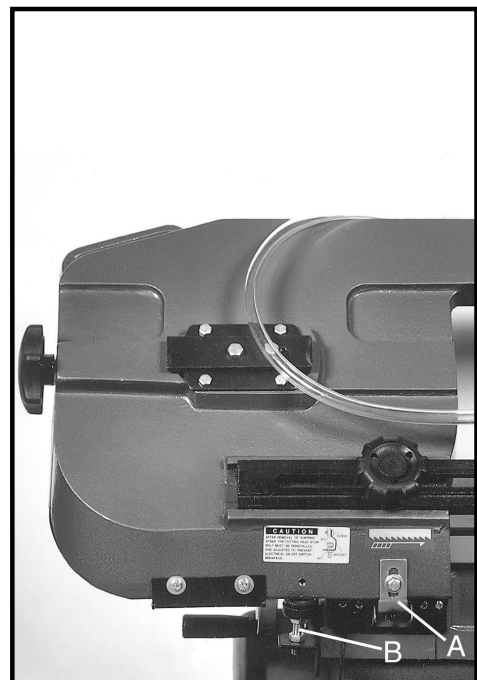

Fig. 16
1. If the saw completes the cut and continues to run, adjust the stop tip (A, Fig.16 ) down.
2. If the saw shuts off before the cut is complete, adjust the stop tip (A) up.
3. If the saw stops cutting but continues to run, adjust the stop bolt (B).